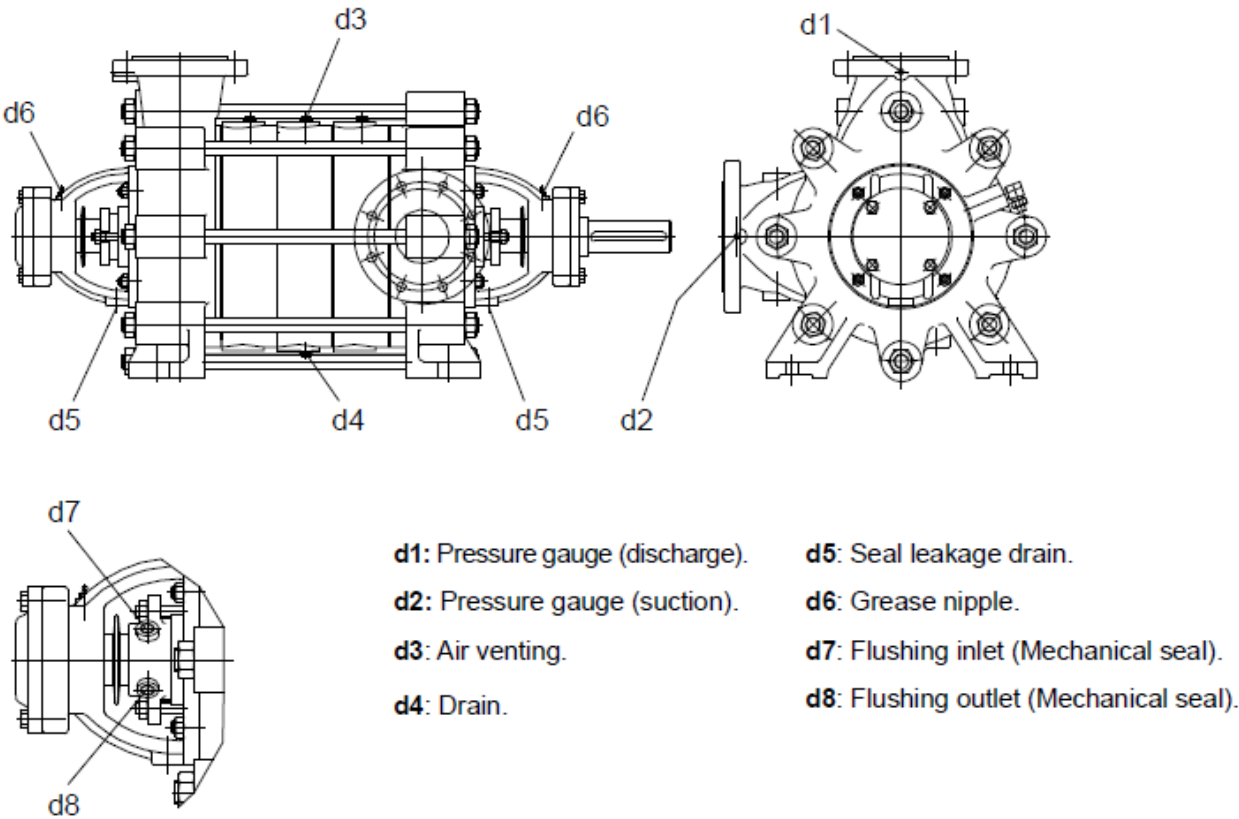

Fig.8
- Every pump is fitted with connection on the pump casing to drain the pump (**Fig. 8**). If required the pump drain can be piped to a suitable reservoir. The pump draining piping must be fitted with an isolating valve and both must be suitable for the maximum operating pressure of the pump.
- Cooling, sealing and flushing of seal piping must be connected only to the designated connections located on the pump (**See Fig. 8**).